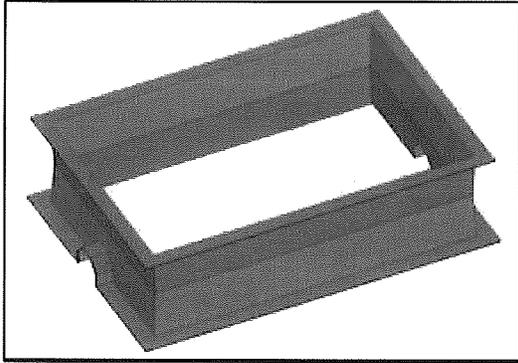

Figure 15
2.5 Stick a serial number data plate inside and outside the main access as shown on Figure 15 and 16. Also, stick a system identification label inside the main access just beside the serial number data plate.
2.6 Place the parts on the tank top part so they are 1½" deep in concrete as described on Figures 15, 16 and 17.